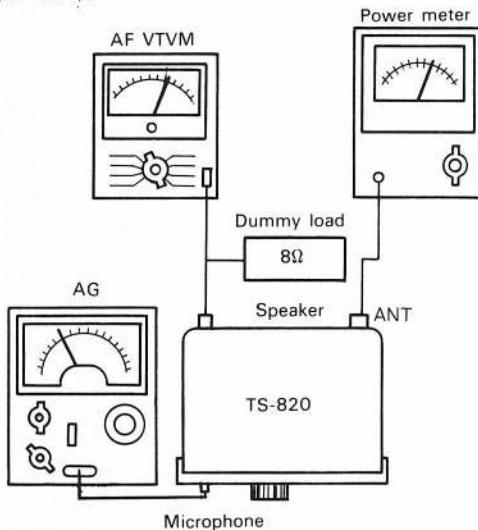

Fig. 38 Adjustment of monitor level
- 1) If **Fig. 38**, make adjustment until full power is obtained at 14.175 MHz, CW, and set the MODE switch to SSB or LSB.